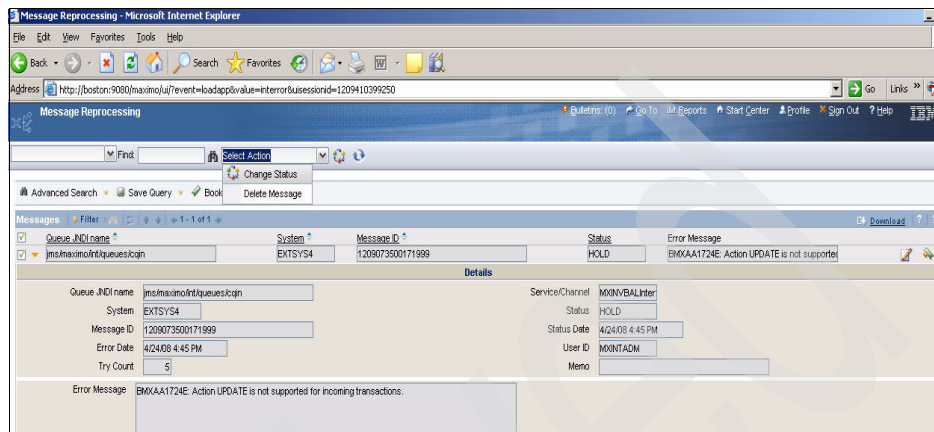

Figure 8-66 Message Reprocessing application
12.If you encounter an error, use the Message Reprocessing application to correct and reprocess the message. Select **Go To** → **Integration** → **Message Reprocessing** (see Figure 8-66).